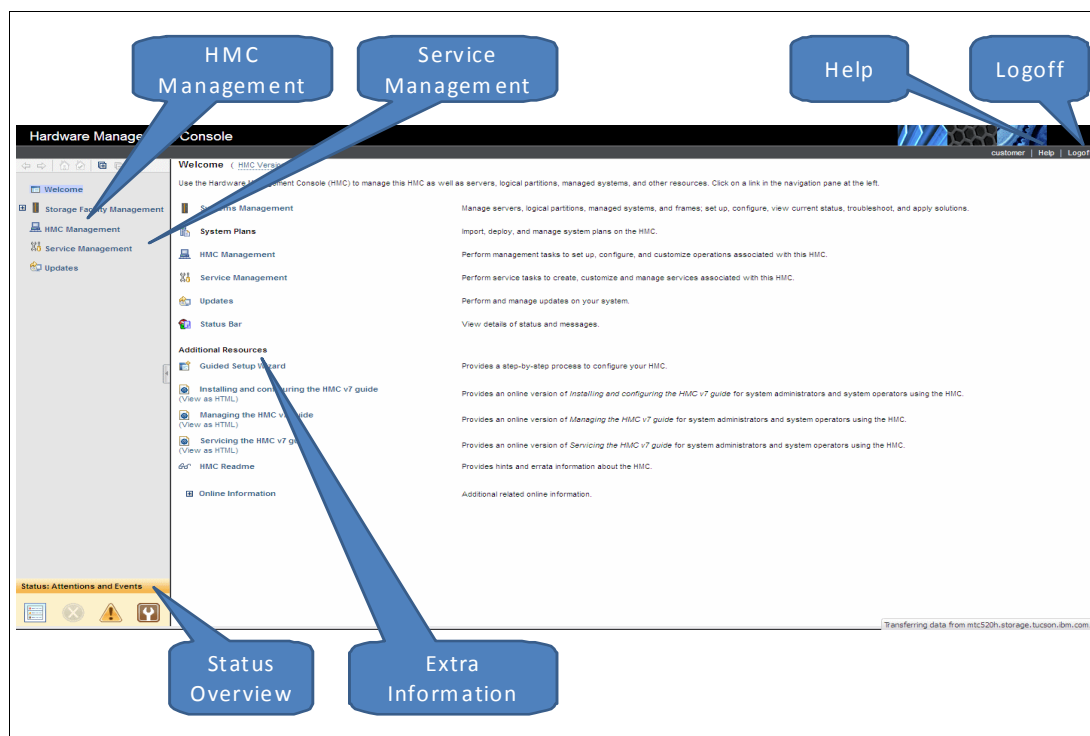

Figure 9-5 WebUI main window
2. If you are successfully logged in, you will see the Hardware Management console window, where you can select **Status Overview** to see the status of the DS8000. Other areas of interest are illustrated in Figure 9-5.